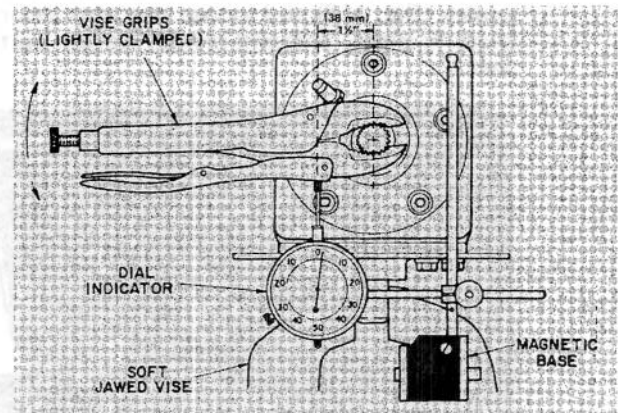
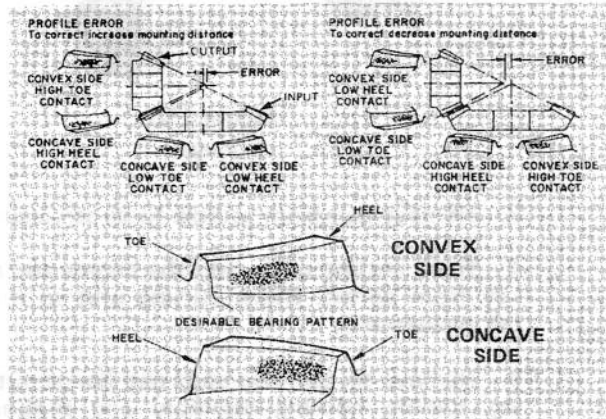

Figure 114
Figure 115
4. Clamp the output shaft of gear box in a soft-jawed vise, lightly clamp a pair of vise-grip pliers to the input shaft, mount a dial indicator with magnetic base to the vise, move vise grips up and down and check input gear backlash (Fig. 114). Backlash should be .005-.010 inch (0.13-0.25 mm) with indicator positioned one and one-half inch (38 mm) from center of shaft (Fig. 115). If backlash is incorrect, remove input housing assembly and add or subtract shims as necessary. Repeat procedures until correct backlash is obtained. Shims are available in .002, .005, .015 and .020 inch (0.051, 0.13, 0.38 and 0.51 mm) sizes (Fig. 114).
7. Inspect the wear pattern on the gear teeth, compare them to the patterns indicated (Fig. 115). Add or remove shims from output housing to correct any misalignment.